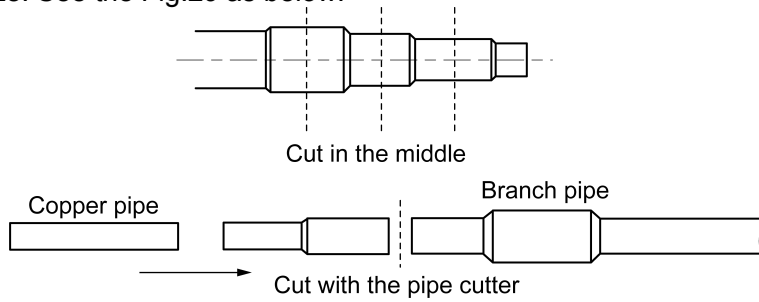

Fig.29
- 3) Manifold has several pipe sections with different pipe size, which facilitates to match with various copper pipe. Use pipe cutter to cut in the middle of the pipe section with different pipe size. See the Fig.29 as below.